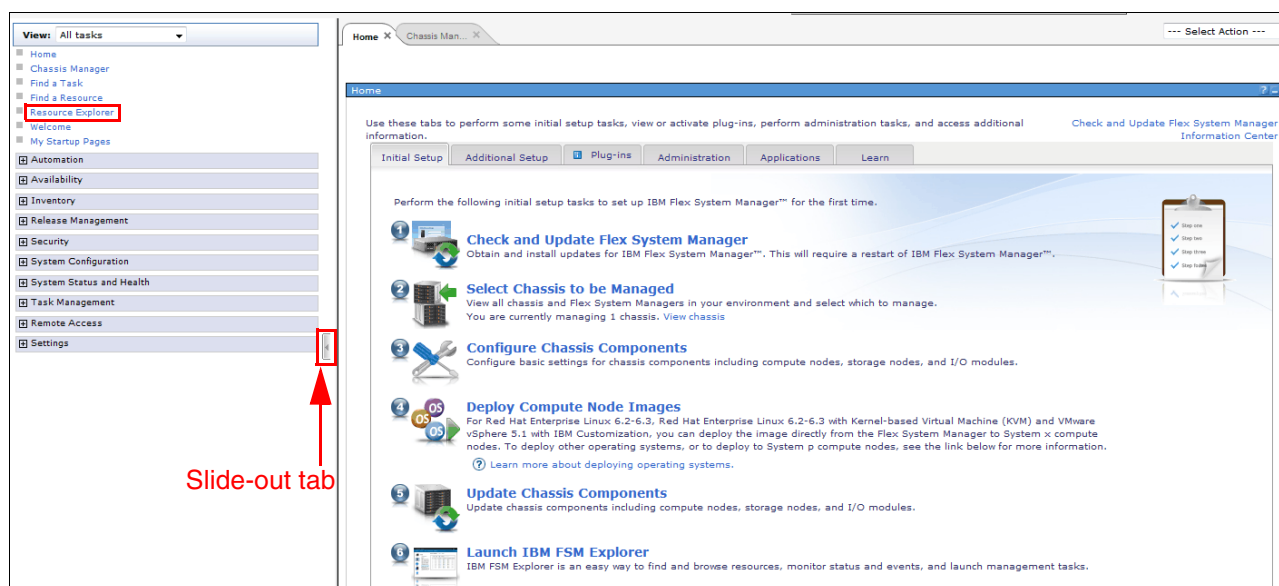

Figure 3-89 Opening Resource Explorer in FSM
- From the left slide-out tab, select Resource Explorer, as shown in Figure 3-89.